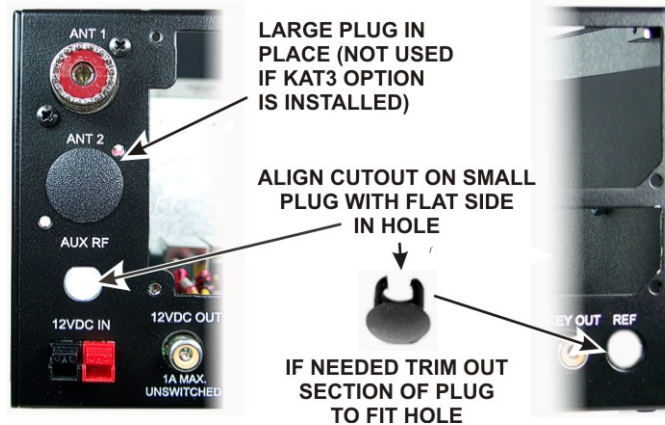

Figure 30. Installing Rear Panel Hole Plugs.
- If you installed the KANT3 board, the hole for the ANT2 jack is not used. Insert the larger of the hole plugs in the opening until it clicks in place (see Figure 30).
- If you do not have the K3EXREF option, insert one of the smaller hole plugs in the REF connector at the bottom right. Align the open side of the plug with the flat side of the hole as shown in Figure 30. If the plug does not have a cutout, use your diagonal cutters to clip out a section of the plug so it will fit into the hole. Similarly, install the other small plug in the AUX RF opening if the subreceiver connector was not installed.